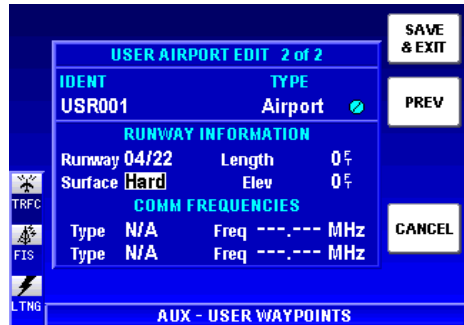

Figure 1-86
6. Turn the Rotary Knob to select either Soft or Hard for the type of surface as shown in Figure 1-86. Note that the airport icon has changed to reflect a hard surface runway.